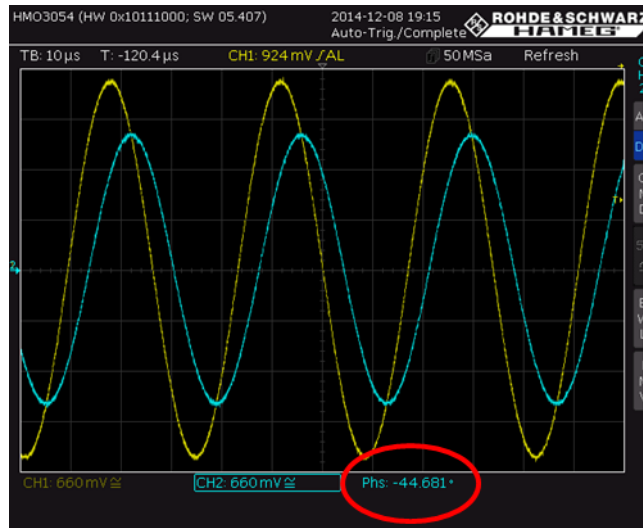

Fig. 2-43: Phase response between  $u_{in}$  and  $u_{out}$ .
- As can be expected, the measured phase response of  $u_{out}$  is nearly  $-45^\circ$  at the cutoff frequency (see Fig. 2-43).